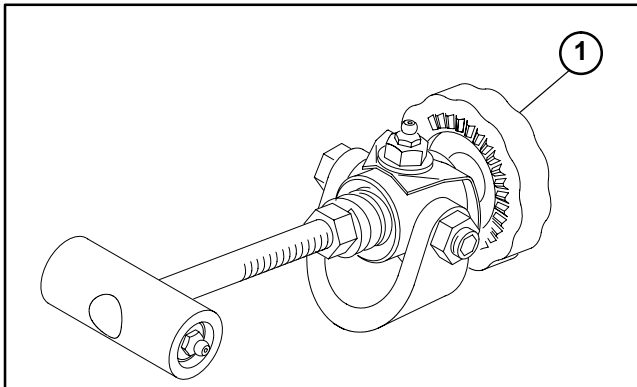
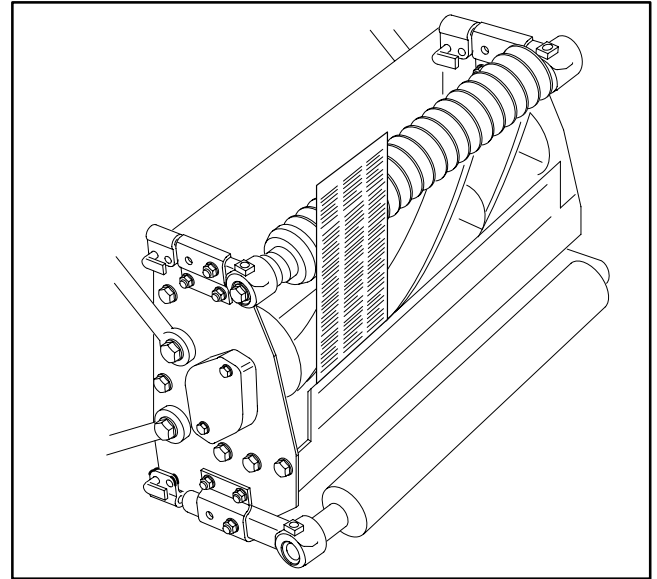
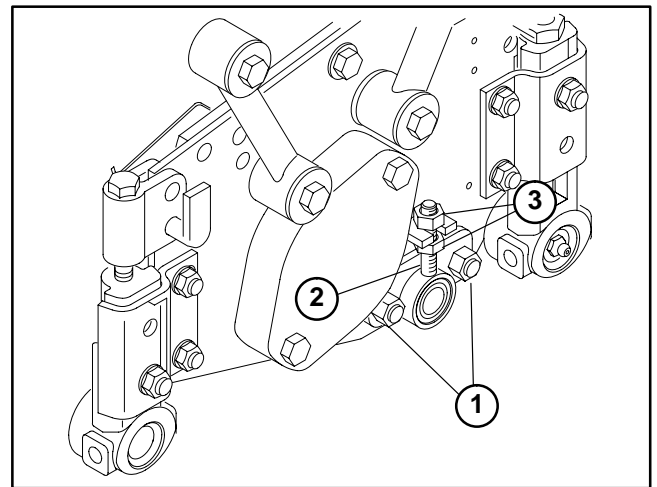

Figure 7
Figure 8
Figure 9
Bedknife Parallel to Reel (Fig. 7 through Fig. 9)
1. Remove any reel contact by turning the bedknife adjustment knob counterclockwise (Fig. 7). Tip cutting unit to gain access to the reel and bedknife (Fig. 8).
4. Loosen both carriage bolts on bedbar adjuster (Fig.9).
5. Adjust nuts to move bedbar adjuster up or down until paper is pinched along entire bedknife surface, when bedknife adjustment knob is adjusted to no more than two clicks beyond first contact of reel bedknife (Fig.9).